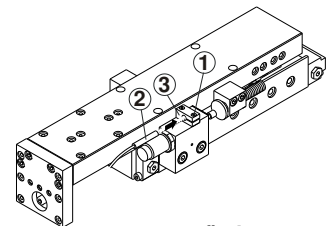

fig 4
#### Adjustment of limit switch (ES), fig 4
1. Loosen clamping screw (1).
2. Slide limit switch (2) from rear into stop Clamp block (3) up as far as stop.
3. Retighten clamping screw (1).
4. Connect limit switch (2) to electricity supply.